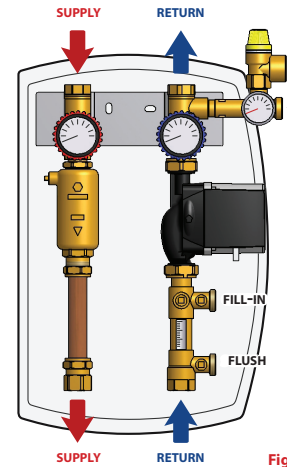

Fig. 2
8. Connect as illustrated in fig. 2. After having all connected, check there's no leakage in the system, testing it under pressure.